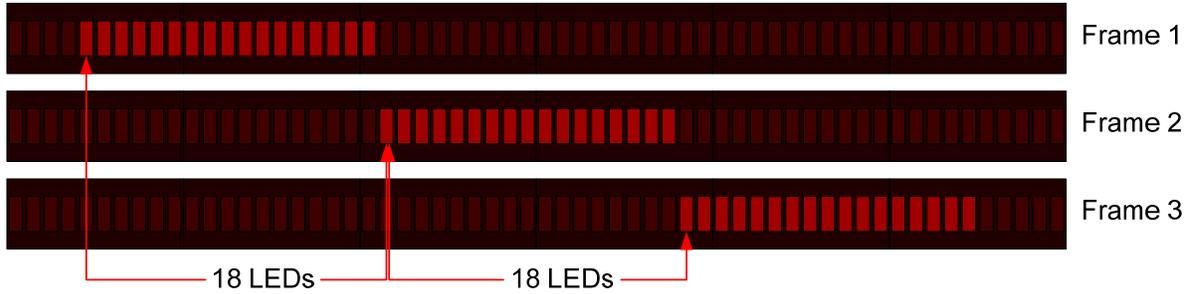

Figure 28. Measuring frame rate
3. Count the number of LEDs between the left-most LED in the first frame to the left-most LED in the second frame. See the example in Figure 28. In the figure, there are 18 LEDs between the left-most LEDs in each frame.